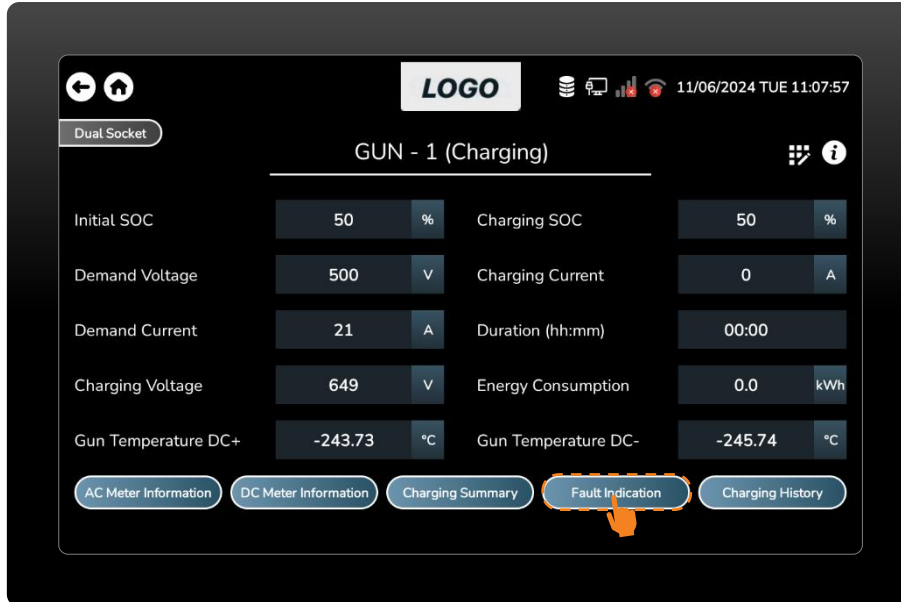

Figure 70 Press the fault indication button.
- To get information about the fault information, press the fault indication button. (Figure 70)